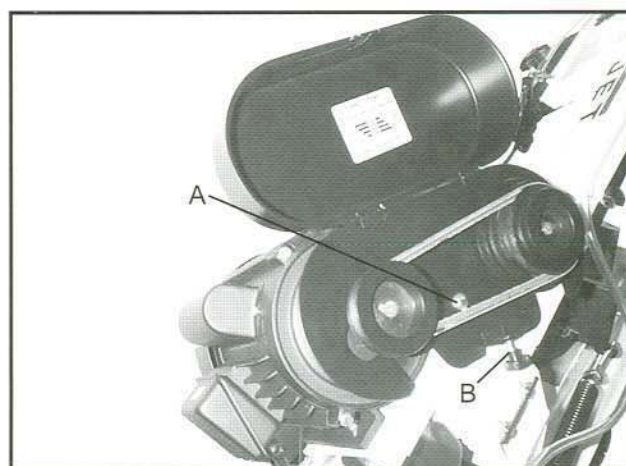

Fig. 2
5. Slide the belt cover over the pulley assemblies and fasten with screws and washers (A, Fig. 2).
6. Close belt cover and secure with lock knob (B, Fig. 2).